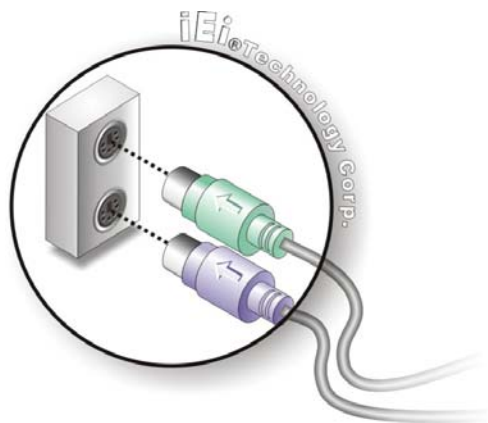

Figure 5-14: PS/2 Keyboard/Mouse Connector
Step 2: Insert the keyboard/mouse connector. Insert a PS/2 keyboard or mouse connector into the appropriate PS/2 connector on the external peripheral interface connector. See **Figure 5-14**.